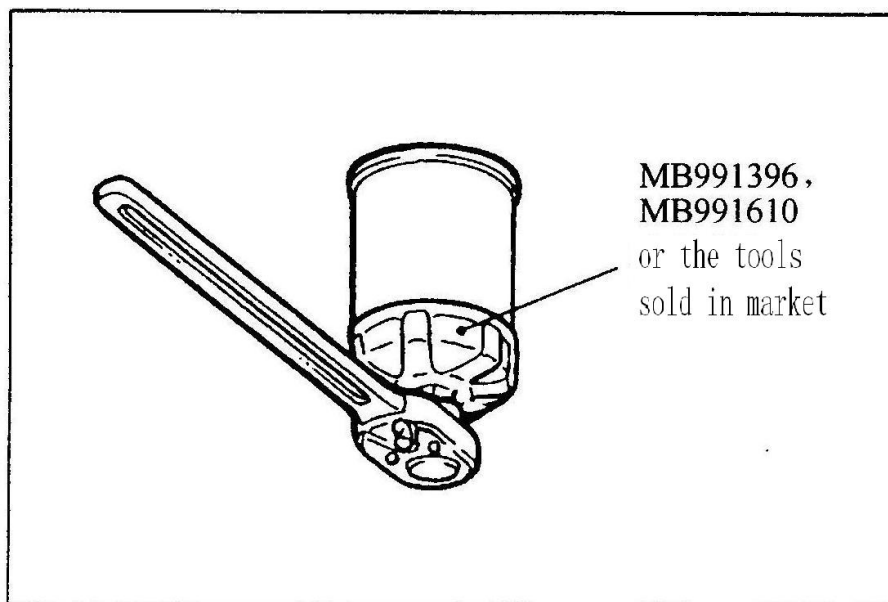
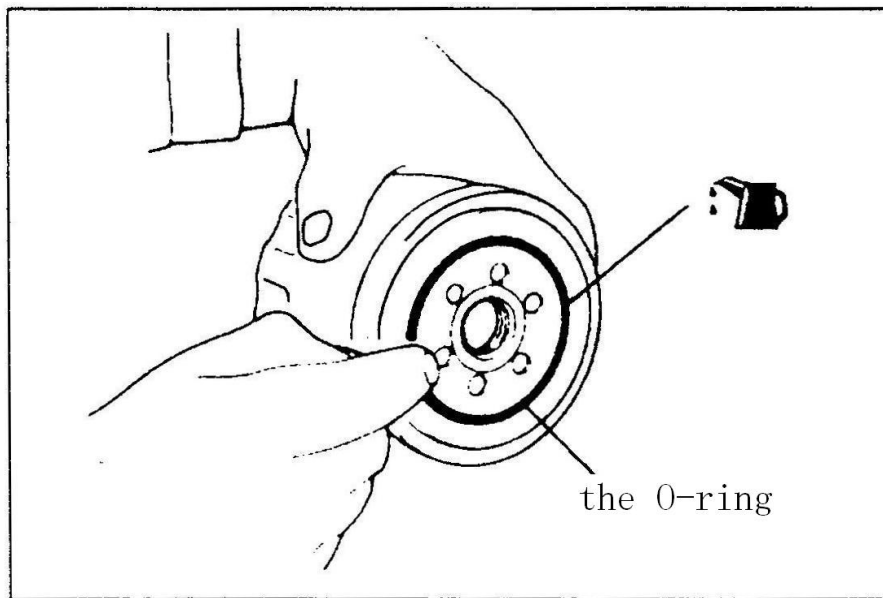

Fig 5-2
Fig 5-3
3. OIL FILTER REPLACEMENT (See Fig 5-2、See Fig 5-3)